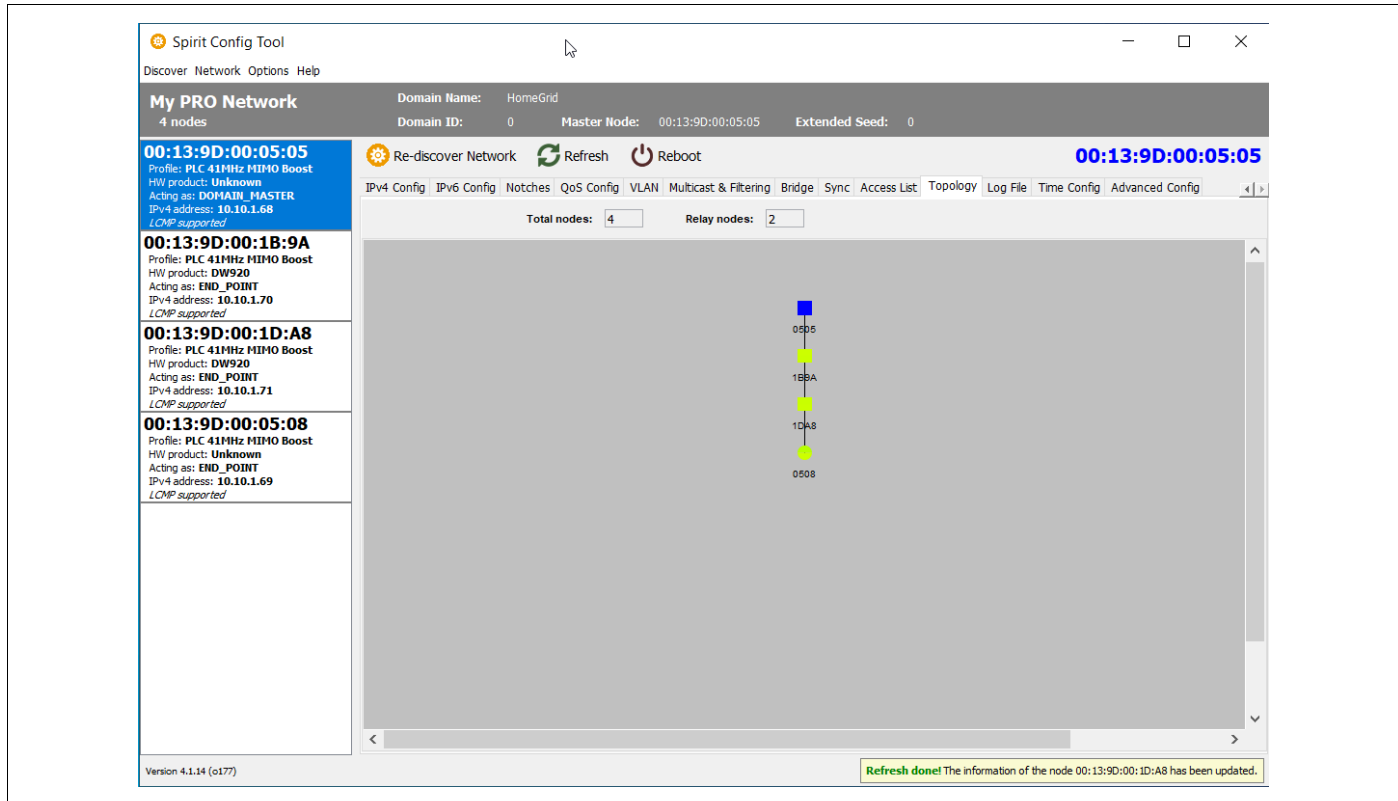

Figure 10: Topology in SCT
2. In HE node, check the **Topology** tab with SCT and confirm the repeating scenario as shown in Figure 10 on page 17.